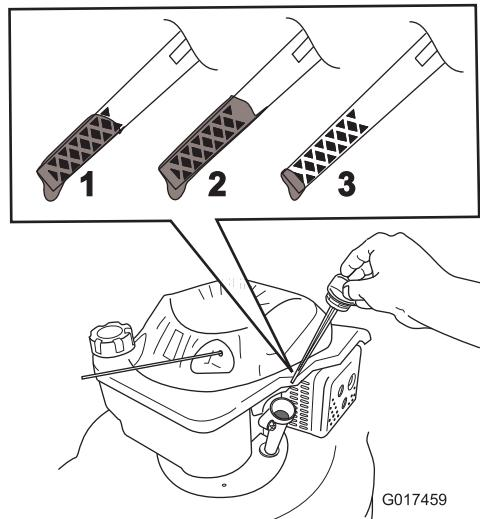

Figure 12
5. Remove the dipstick and read the oil level; refer to Figure 12.
2. Remove the dipstick (Figure 12).